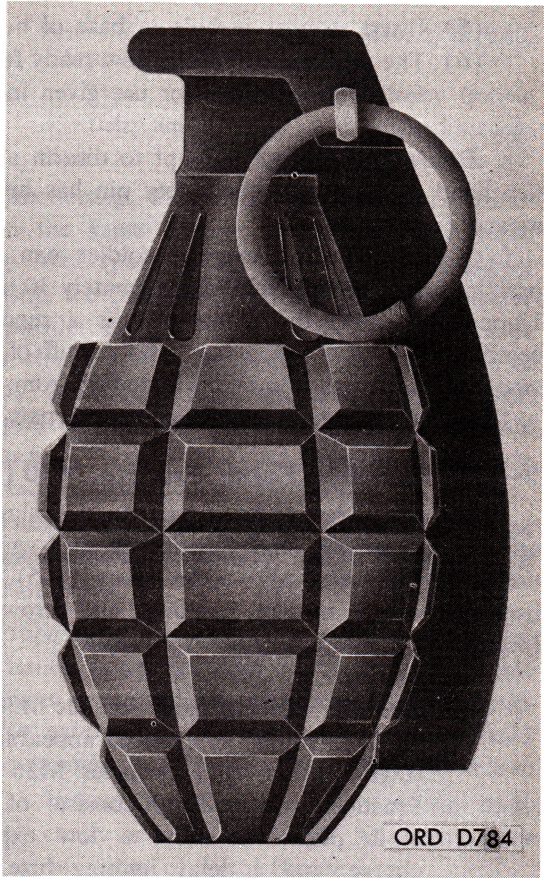

Figure 2-23. Grenade, hand: training, Mk1A1.
a. *General.* Training hand grenade Mk1A1 (fig. 2-23) simulates in weight and form, fragmentation hand grenade Mk2 (para. 2-4). The grenade is a nonfunctioning type and is used for training in handling and throwing of fragmentation hand grenade Mk2.
- (1) *General.* Training hand grenade Mk1A1 consists of only two parts: a casting which simulates body and fuze of fragmentation hand grenade Mk2, and a pull ring with cotter pin attached.
- (2) *Data.*